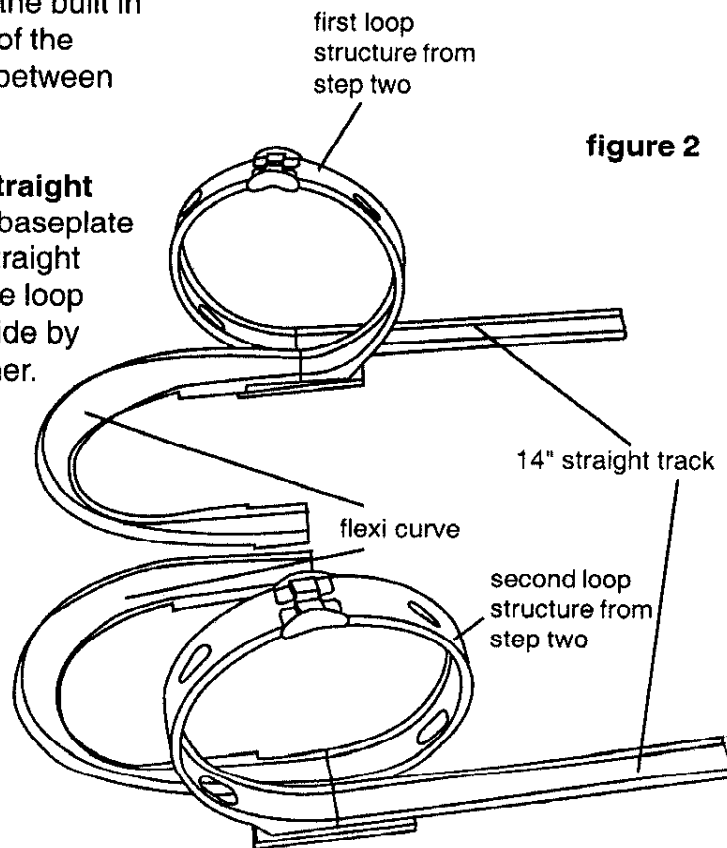

figure 2
- When the two track sections are side by side, they should look like **figure 2** with the flexi curves on the inside and the 14" straight track on the outside.